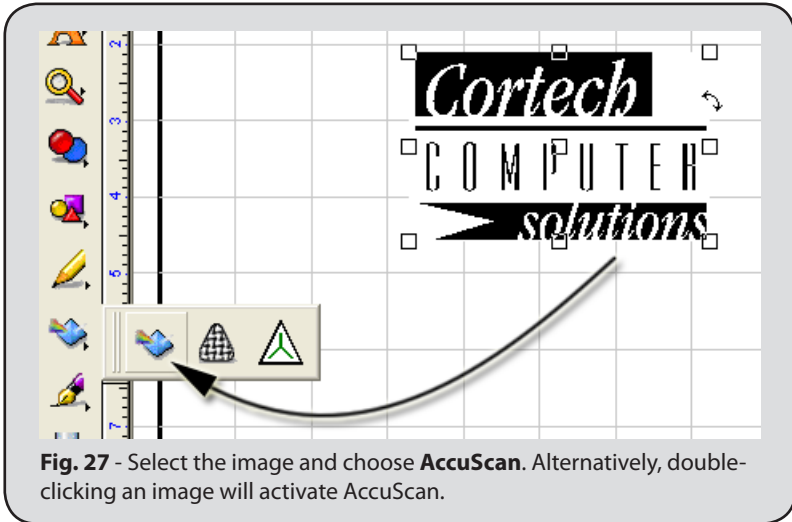

Fig. 27 - Select the image and choose **AccuScan**. Alternatively, double-clicking an image will activate AccuScan.
1. With the image selected, choose **AccuScan** from the **Scan Tools** flyout (Fig. 27).